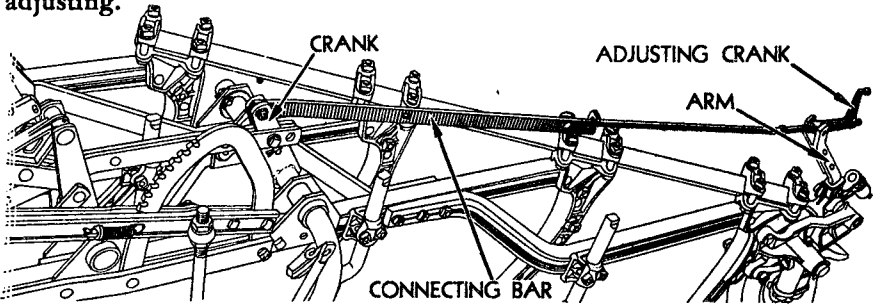

FIGURE 10—CONNECTING BAR
8. CONNECTING BAR.—Attach connecting bar to land axle crank and to the rear wheel arm. (Figure 10.) See operating instructions for adjusting.